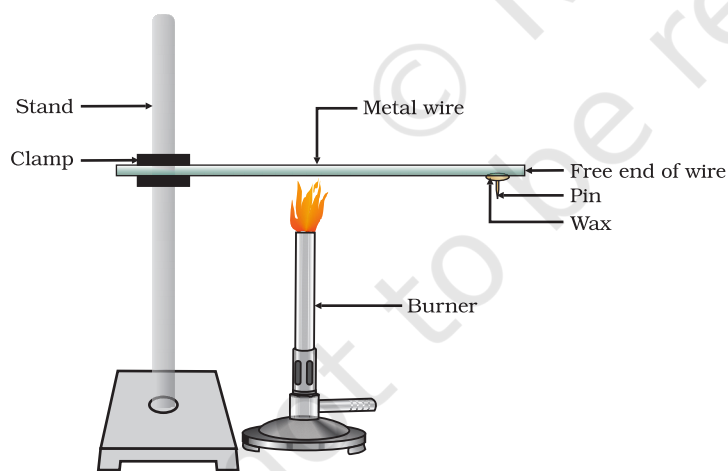

Figure 3.1
- Take an aluminium or copper wire. Clamp this wire on a stand, as shown in Fig. 3.1.